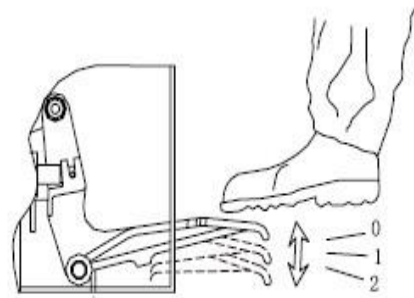
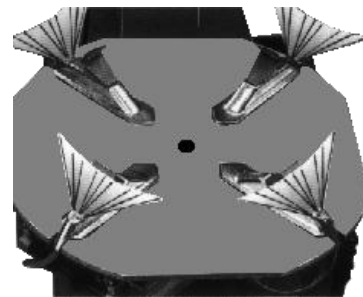

Fig 22
Fig 23
- Press Rapid Tire Inflation Pedal to the middle position (Fig 22, position 1), the inflating head should give air.
- Press Rapid Tire Inflation Pedal all the way down (Fig 22, position 2), a strong air blast should come from the holes in the four jaws' locking sliders. (Fig 23)